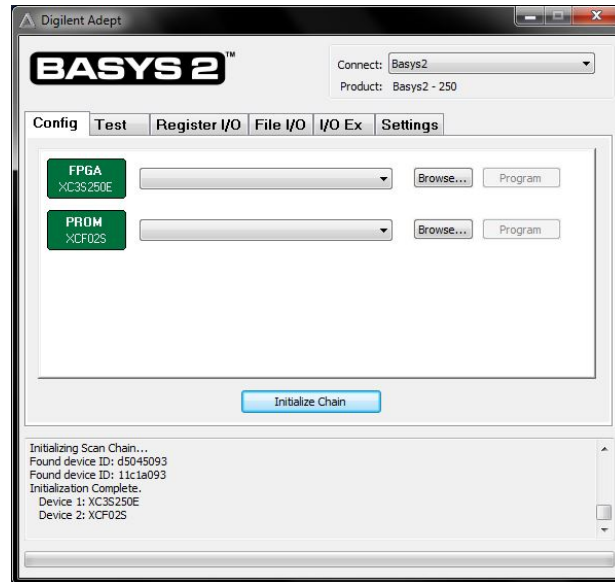

Figure A.4: Digilent Adept tool
2. Start the Adept Tool from Adept programming software: Start → Programs → Digilent → Adept (Figure A.4).